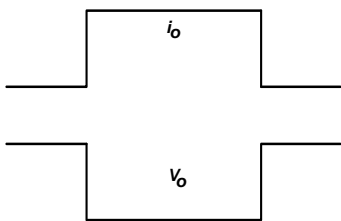
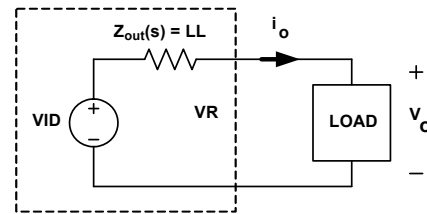

FIGURE 25. DESIRED LOAD TRANSIENT RESPONSE WAVEFORMS
FIGURE 31. VOLTAGE REGULATOR EQUIVALENT CIRCUIT
Assuming the compensator design is correct, Figure 25 shows the expected load transient response waveforms if C_n is correctly selected. When the load current I_{core} has a square change, the output voltage V_{core} also has a square response.
Figure 25 shows the desired load transient response waveforms. Figure 31 shows the equivalent circuit of a voltage regulator (VR) with the droop function. A VR is equivalent to a voltage source (= VID) and output impedance $Z_{out}(s)$. If $Z_{out}(s)$ is equal to the load-line slope LL, i.e., a constant output impedance, then in the entire frequency range, V_o will have a square response when i_o has a square change.